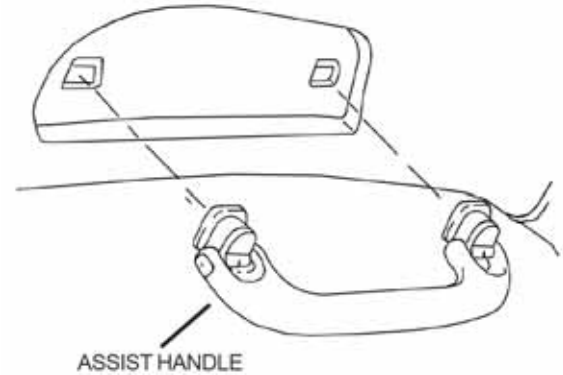

FIGURE 34
- 2.) REMOVE THE ASSIST HANDLE BY PULLING OUTWARD. (SEE FIGURE 34)